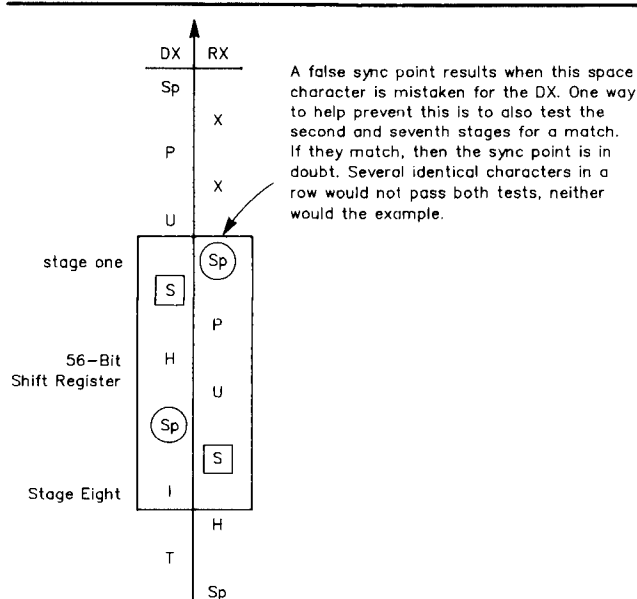

Fig 2
Fig 2 shows how a false sync point can result from this method. It is possible to detect a space character, search back five characters and find another space, and presume falsely that the first space is a DX. One way to reduce the probability of this happening is to compare the second and seventh stages of the shift register for a match as well as comparing the first and sixth stages. I did not include this in my procedure, but so far it has not caused any noticeable problems. Evidently, the probability of this occurrence is fairly low.
Normally, the top-coupled resonator form would be chosen for this application, and its configuration is shown in Fig 1. Because of the capacitive top coupling, the filter acts somewhat like a highpass filter at frequencies above the center frequency, and the rate of attenuation rolloff is less abrupt than for frequencies below the center frequency. Since the human ear is more sensitive to frequencies above 500 Hz than below, this response characteristic of the top-coupled resonator is not optimum for a CW band-pass filter. In comparison, the bottom-coupled series-resonator band-pass filter shown in Fig 2 has maximum attenuation on the high side of the center frequency with a more gradual attenuation rolloff below 300 Hz on the low side. However, the poorer performance of the coupling transformers below 300 Hz and the lower sensitivity of the human ear to frequencies below 300 Hz will provide some additional attenuation to compensate for the poorer low-frequency attenuation of the bottom-coupled series-resonator band-pass filter. For this reason, the bottom-coupled 5-resonator band-pass filter configuration shown in Fig 2 is selected for the narrow-band CW filter.
**Fig 2—Schematic diagram of the bottom-coupled 5-R BPF. NOTES: L1 through L5 have the same value,  $R_S = R_L$ ,  $C_1 = C_5$ ,  $C_2 = C_4$ ,  $C_{12} = C_{45}$ ,  $C_{23} = C_{34}$ .**